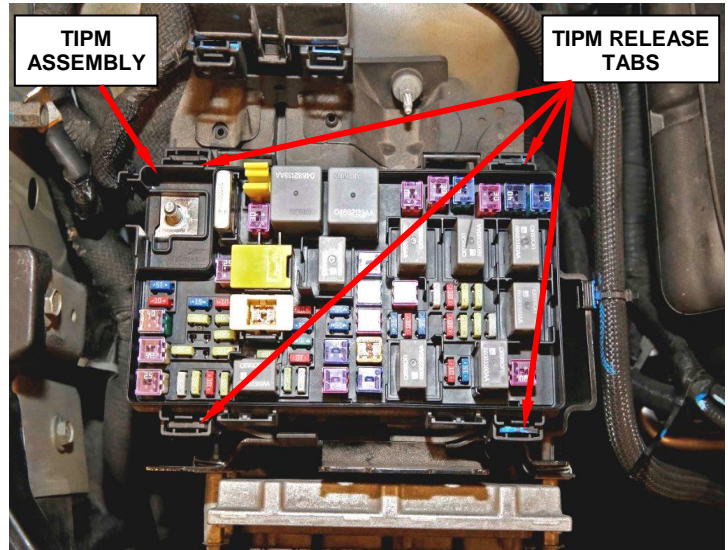

Figure 12 – TIPM Release Tabs
6. Push the four TIPM retaining tabs and separate the TIPM from the TIPM support bracket (Figure 12).